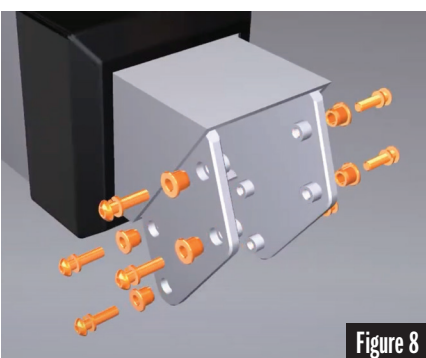

Figure 8
- Remove the hardware from the top end of the Base Pole. See Figure 8.